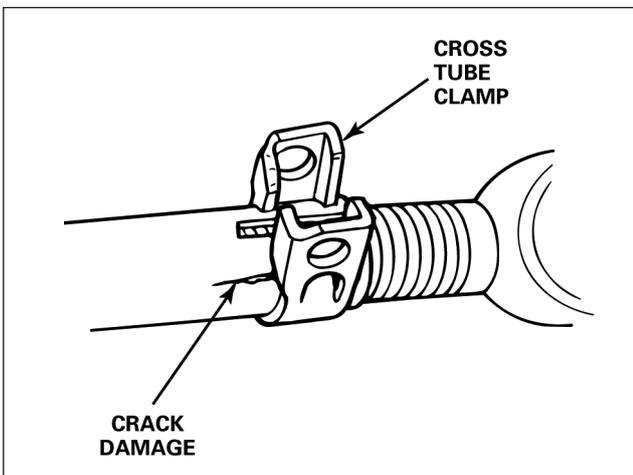

Fig. 1.12
11. Inspect the cross tube and clamps for damage. Fig. 1.12